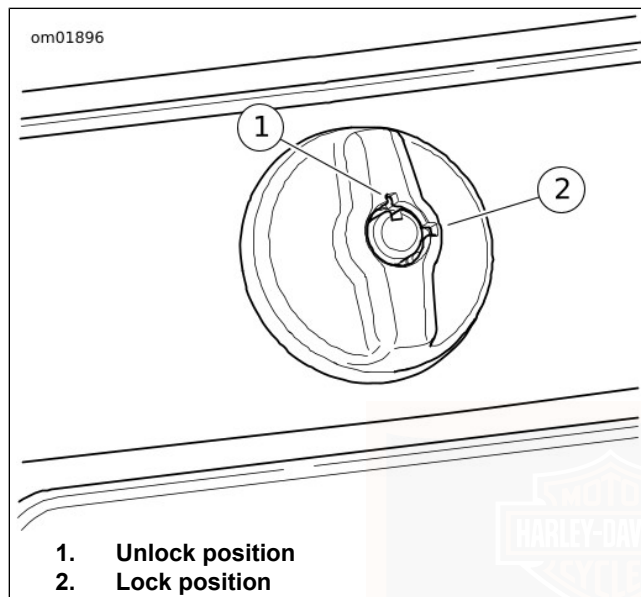

Figure 31. Trunk Lock
1. See Figure 31. To unlock trunk, insert key into barrel lock and turn one-quarter turn counterclockwise. Remove key.